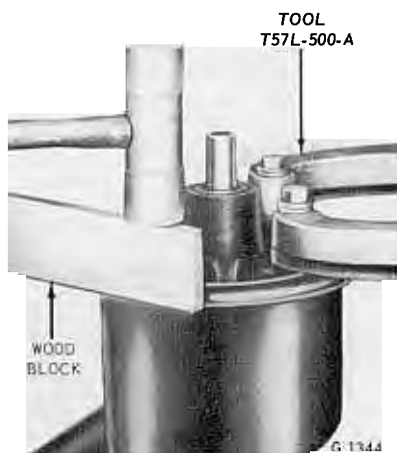

FIG. 21—Removing Pump Reservoir
3. Invert the pump so the pulley side is facing up and remove the reservoir by tapping around the flange with a wood block (Fig. 21).